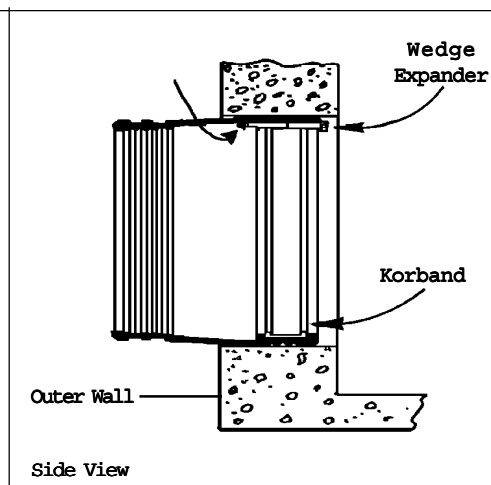

Fig. 2
2. Insert Connector Assembly into hole with Wedge Expander at top of hole. (Fig. 2)